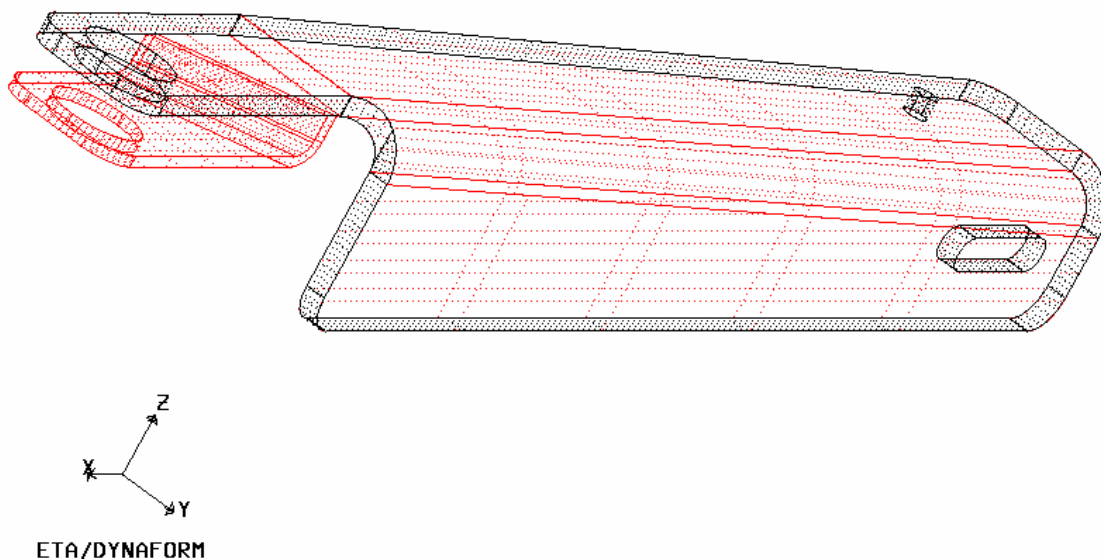
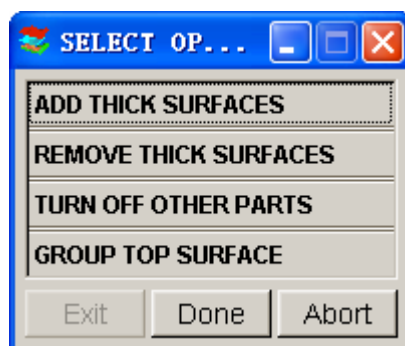
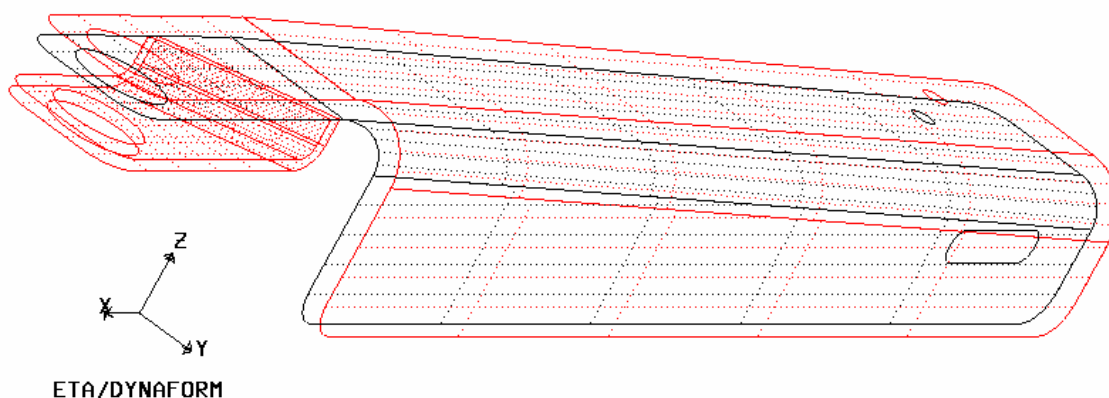
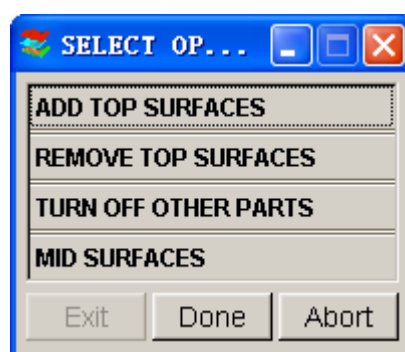

Figure 5.2.8 Thickness Surfaces
Figure 5.2.9 Select Options
Figure 5.2.11 Grouped Top Surfaces
Figure 5.2.12 Select Options
1. After selecting the thickness surface, the THICKNESS window appears with the thickness calculated from the select seed surface. The data field allows the user to enter an average of the thickness of the part. After accepting the given thickness value, the program will automatically group the surfaces through the thickness and highlight the corresponding surfaces. Refer to Figure 5.2.8. At the same time, the OPTION window appears (Figure 5.2.9).
3. After the thickness grouping is done, click **GROUP TOP SURFACE** (Figure 5.2.9) to group the top surfaces of the part (Figure 5.2.11). The grouped surfaces are highlighted and the **SELECT OPTION** window appears (Figure 5.2.12).
5. Click MID SURFACE in Figure 5.2.12 to generate the middle surfaces of the part.
3. After accepting the given thickness value, the program will automatically group the surfaces through the thickness, and the corresponding surfaces will be highlighted. Refer to Figure 5.2.8. At the same time, the OPTION window, Figure 5.2.9, is displayed.
5. After the thickness grouping is done, click GROUP TOP SURFACE, Figure 5.2.9. The program will group the top surfaces of the part. Refer to Figure 5.2.11. The grouped surfaces are highlighted, and at the same time the SELECT OPTION window, Figure 5.2.15, is displayed.